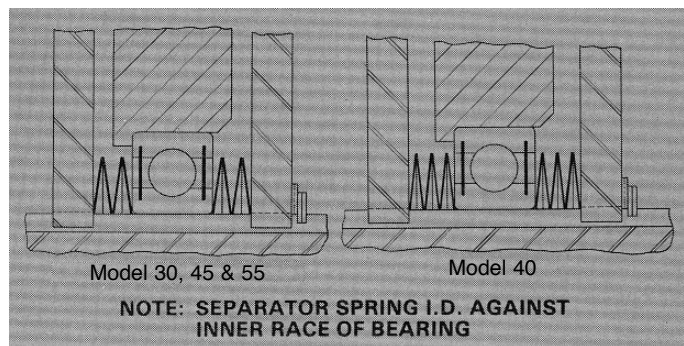

FIGURE 5
- 2) Install new separator springs, tip-to-tip, between pressure plate and clutch bearing, as shown in Figure 5.
- 4) Install second set of new separator springs, tip-to-tip, as shown in Figure 5.
- 6) Install snap ring and check clearance between pressure plates and output member sides with clutch disengaged. *Proper clearance is .020 to .030 total.* If clearance exceeds this value, reduce by adding shims (furnished) between snap ring and outboard pressure plate until proper clearance is obtained. See Figure 5 and 6 above.